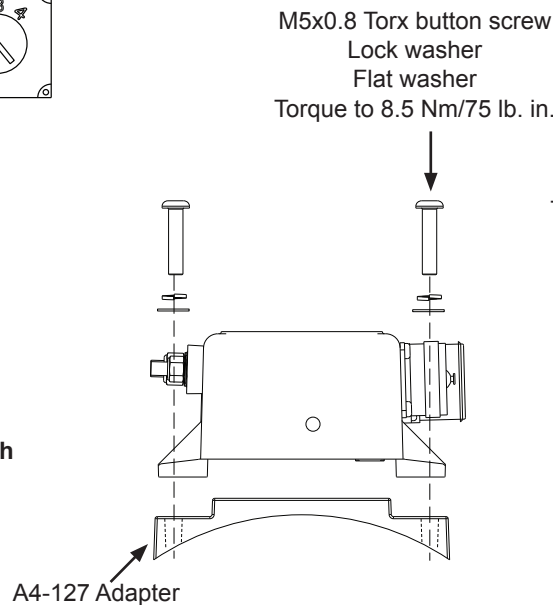

Figure 5: Mounting Adapter Installation
2. Mount regulator on alternator with A4-127 adapter plate or mount remotely¹. Torque mounting screws to 8.5 Nm/75 lb. in. See Figure 5.